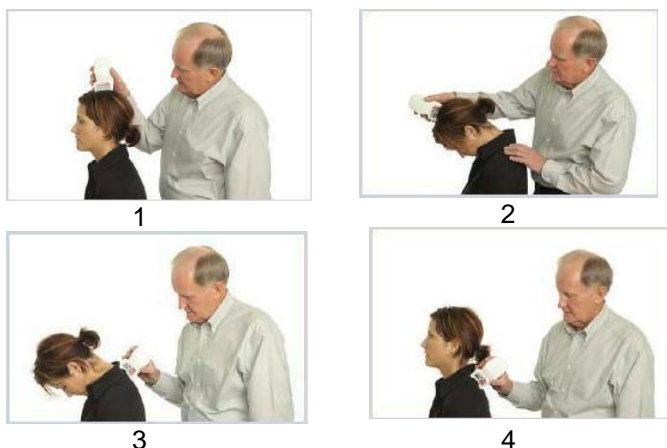

Figure 6. Example: Cervical Spine Range of Motion Sequence and Device Position
- Example of spine range of motion test sequence and device placement (see Figure 6).